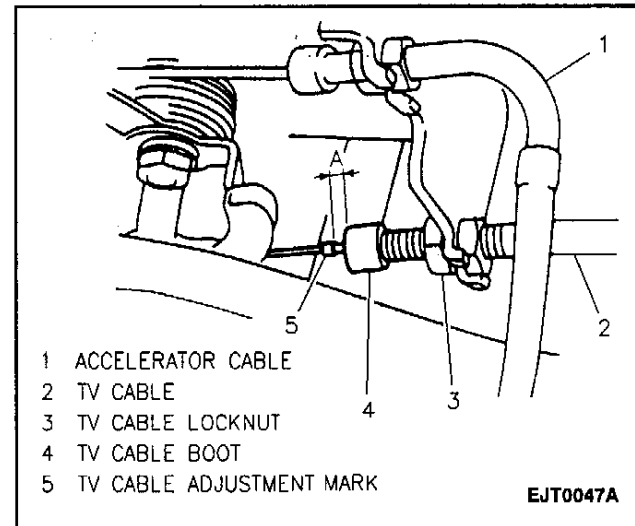

Figure 26—TV Cable Adjustment (03-72LE, 4-Speed)
- A. Measure distance between tip end of TV cable adjustment mark and end of boot (indicates "A" in Figure 26). Distance of "A" must be 0.8-1.5mm (0.031-0.059 in.).
- B. With the TV cable pulled tight, tighten the TV cable locknut (Figure 26).